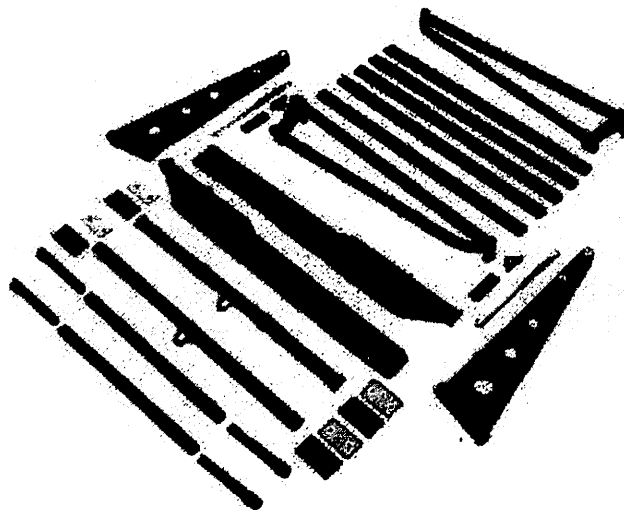

Figure 1: The parts needed for assembling the ADV Rack
Step 1: To prepare for the install, lay out all the tools and hardware needed. Figure 1 and 2 shows a good example of laying out the parts and hardware.